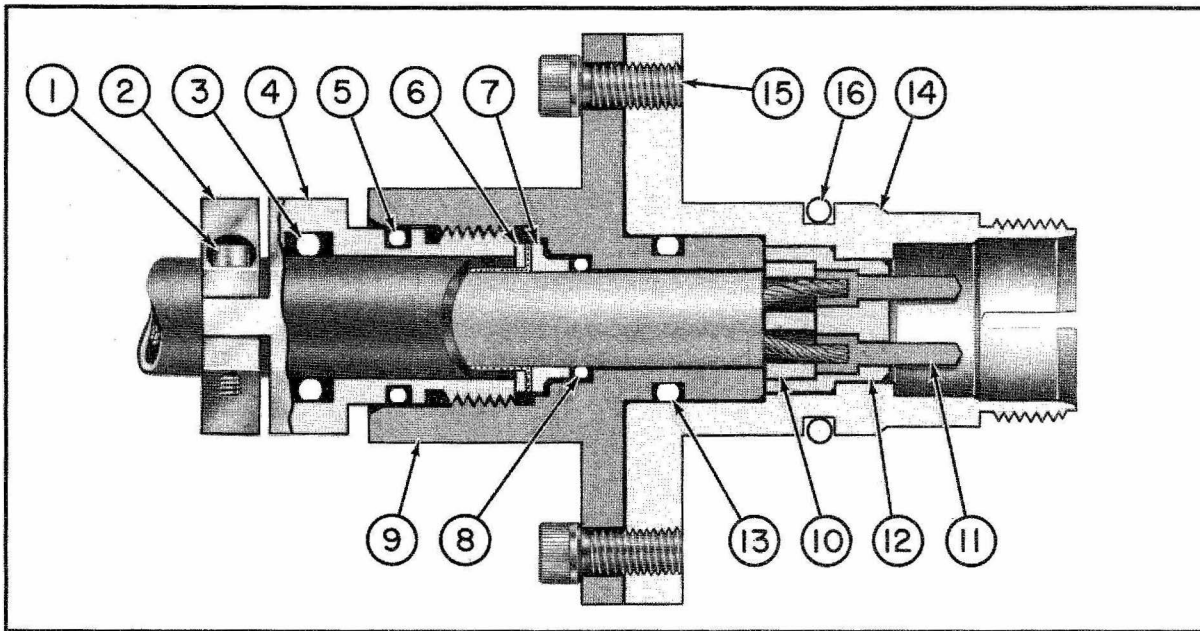

Figure 5-11a. UG-1363/U Assembled
(6) MX-1203E/U Detailed Assembly. - This fitting is the same as MX-1203F/U, except that it does not use pieces 8 and 7 which are an O-ring and O-ring follower. In the MX-1203F/U these two pieces provide a water-tight seal between the cable dielectric and the fitting body. For this reason the MX-1203E/U is obsolete and should be used only in emergencies. When it is used, it should be assembled in accordance with the instructions for MX-1203F/U, except for the two above pieces.
(7) MX-2632/U Detailed Assembly. - This fitting is the same as MX-1203F/U, except its physical size. It is used with RF cable types RG-14A/U and RG-217/U. This fitting is assembled the same as MX-1203F/U.
(8) UG-1363/U Detailed Assembly. - This fitting is used with RF twinax cable type RG-57A/U having a jacket OD of 0.610 inch minimum - 0.640 inch maximum, a dielectric OD of 0.457 inch minimum - 0.487 inch maximum and twin inner conductors of seven strands each. The cable is terminated in the fitting which is then installed in the AT-317/BRR or AT-317A/BRR type antennas. Assembled and exploded views are shown in figures 5-11a and 5-11b. In these views the parts are assigned piece numbers which are used for reference in the assembly instructions. Table 5-7 lists the stock numbers for the required parts.